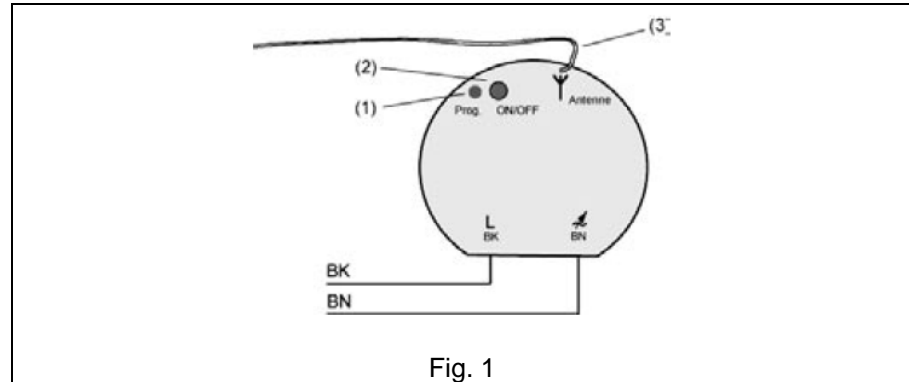

Fig. 1
- Press the programming button (2) briefly (Fig. 1).